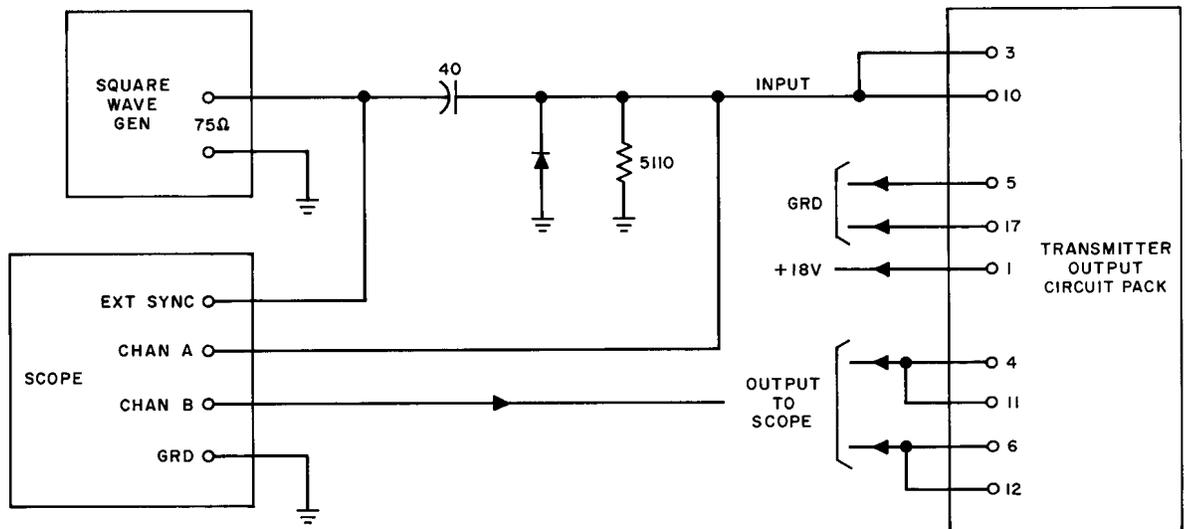

Fig. 36A — Transmitter Output Test Circuit
- (1) Connect ground to terminals 5 and 17 and +18.0 (± 0.5) Vdc to terminal 1.
- (2) Connect the circuit pack to the suggested test circuit shown in Fig. 36A using the output of the square-wave generator. Set the symmetry control to the center position.